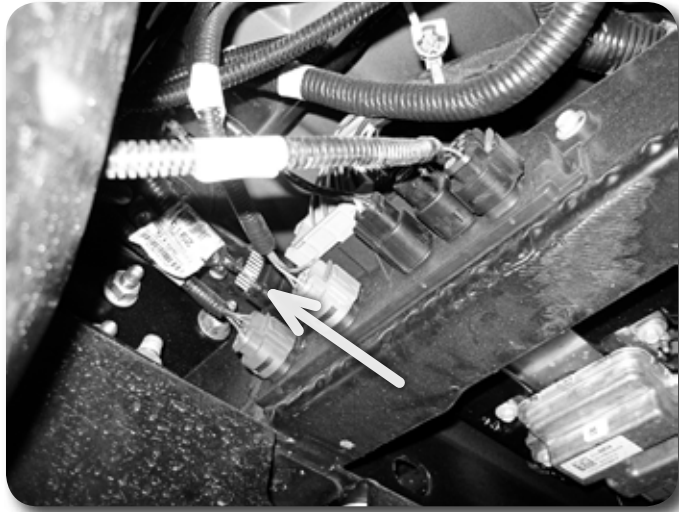

Figure 18
7. Locate the rear wire connector cluster on the rear, driver's side frame crossmember **Figure 18**. Disconnect the license plate light harnesses.